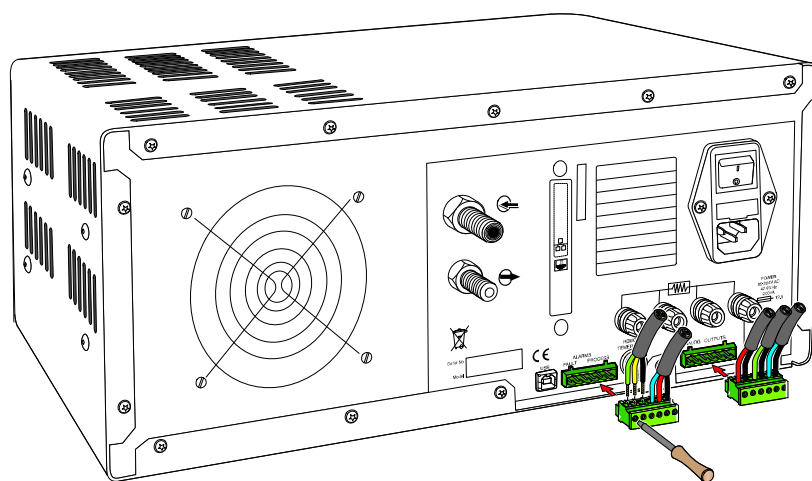

Figure 2.5 Alarm and Analog Output Connection
The three analog output ports connections are made via a single, 6-way, push fit connector block as shown in *Figure 2.5*. All outputs are 2-wire, positive-going signals referenced to a common 0 V line. To differentiate between the outputs it is recommended that a black lead be used for each of the COM (common) lines and a separate color for each of the positive lines.
The two alarm output ports are connected to the instrument via a single 6-way, push-fit connector block as shown in *Figure 2.5*. Each output comprises a 3-wire set of potential free, change-over relay contacts.
7. Insert the analog and alarm connectors into their respective sockets on the rear of the instrument (refer to *Figure 2.5*) and connect the external PRT probe and USB communications cable and connector as appropriate.